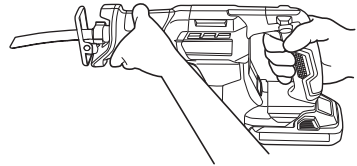

Fig. 14
- Be sure to hold the body from the top of the housing. (Fig. 14)